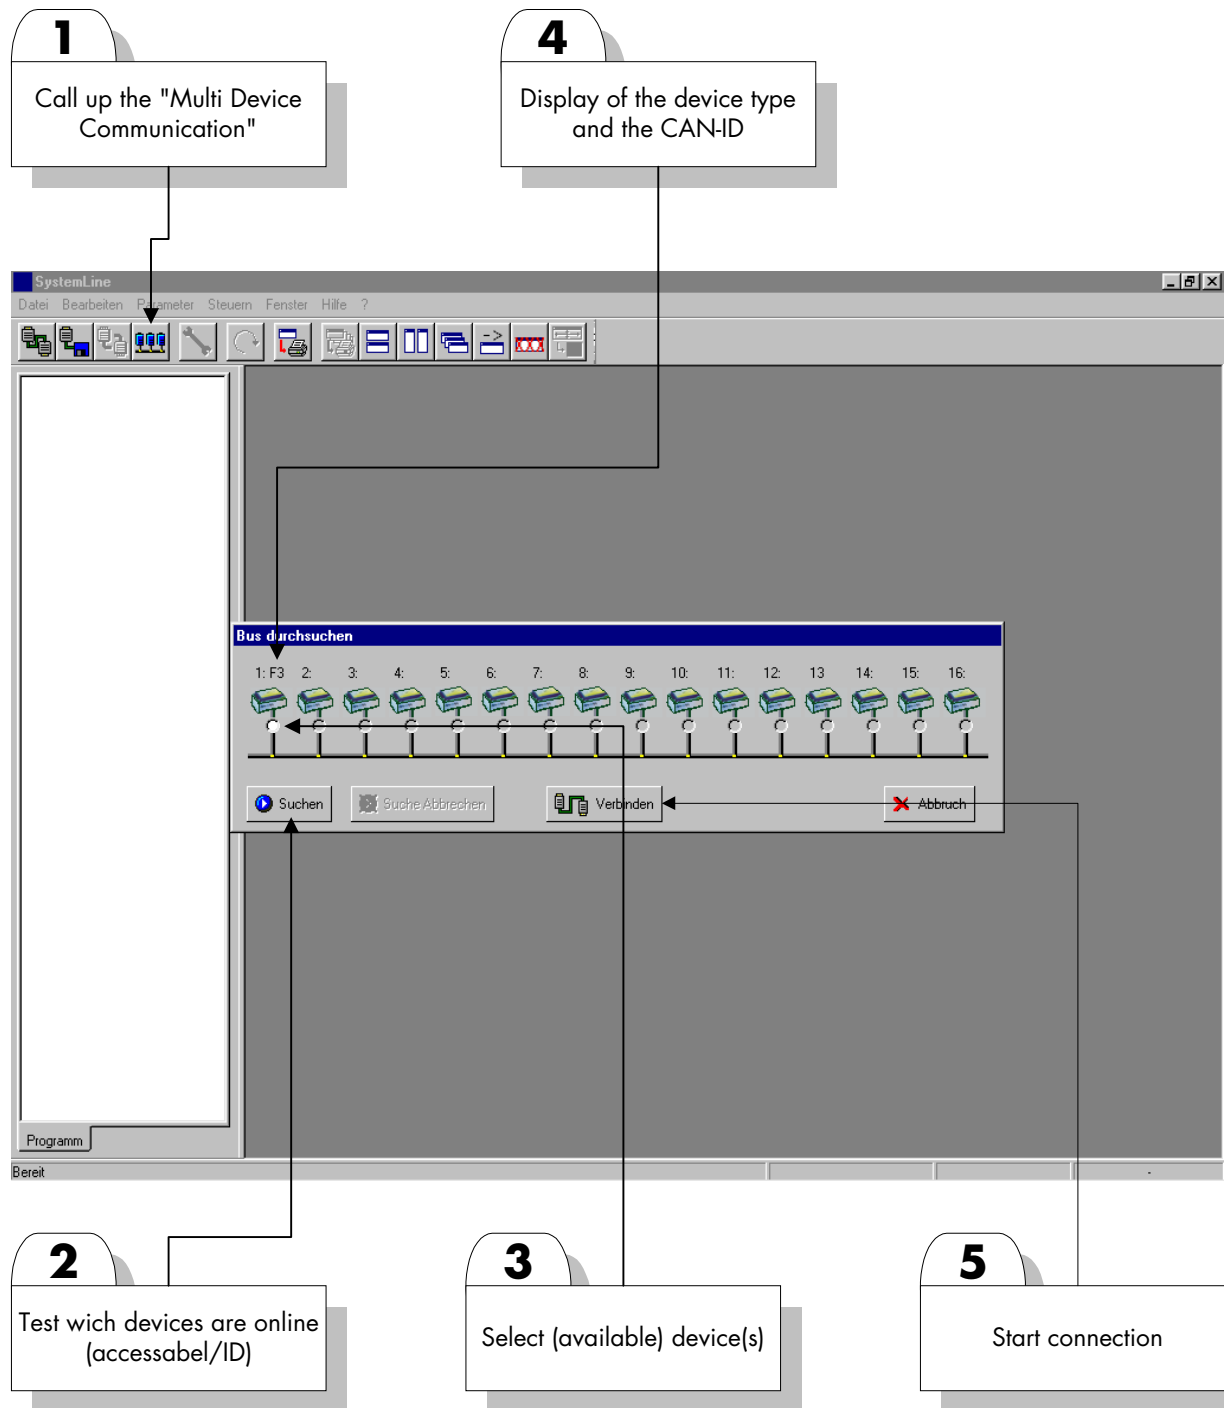

Figure 10.5: Multi-unit communication – Establishing the connection via SYSTEM LINE SOFT
- The *CSP/CMP* system must be connected to the supply voltage. Press the »Enter« key at the *CMP* (refer to Figure 10.5). (In this menu the ID of the *CMP* is adjusted to that of the *CSP*.)